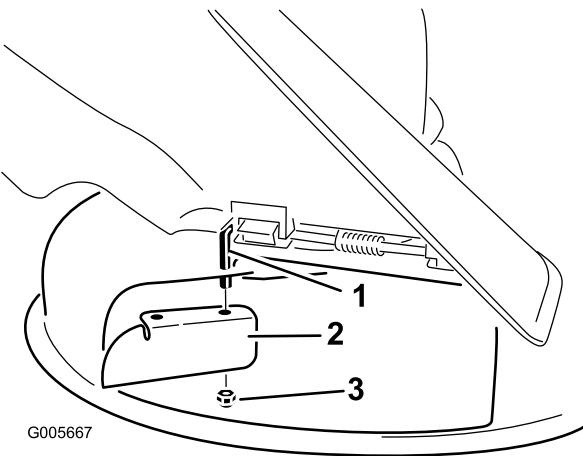

Figure 30
7. Install the cutoff baffle to the exposed pivot rod (Figure 30).
3. Remove the cutoff baffle from the mower deck (Figure 30).